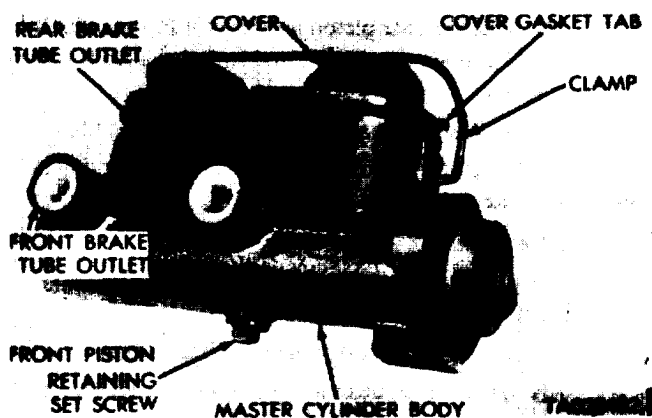

Figure 22-1. Tandem Master Cylinder Assembly.
a. *General.* The tandem master cylinder is of the compensating type with reservoir cast integrally (figure 22-1). The master cylinder has a front and rear piston with two outlets. The outlet holding the rear brakes contains a residual pressure valve.